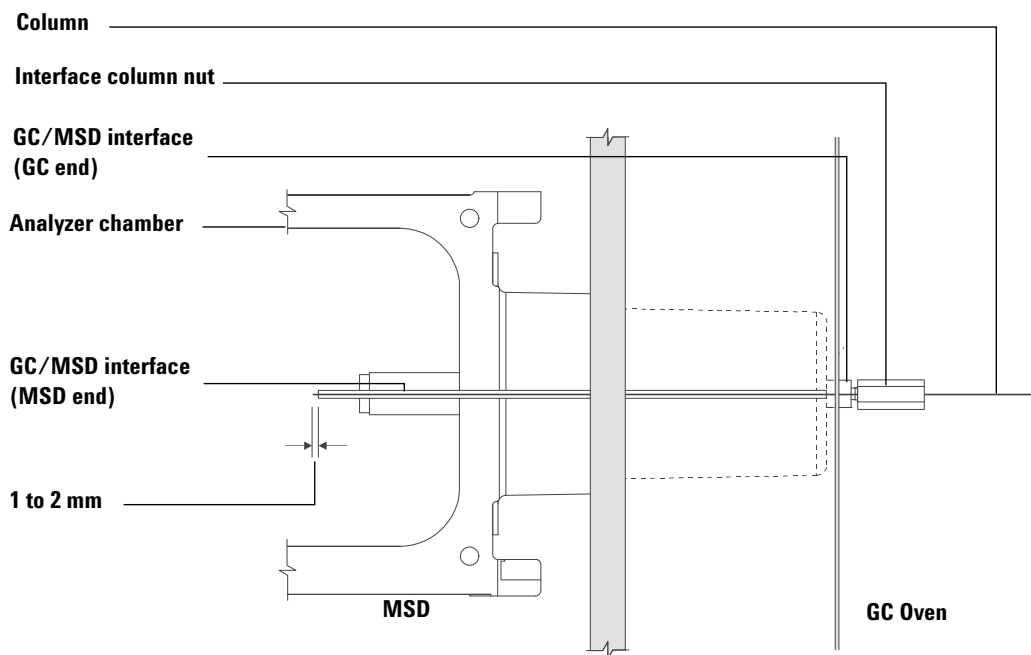

Figure 9 Installing a capillary column in the GC/MSD interface
- 5 Slide the column into the GC/MSD interface (Figure 9) until you can pull it out through the analyzer chamber.